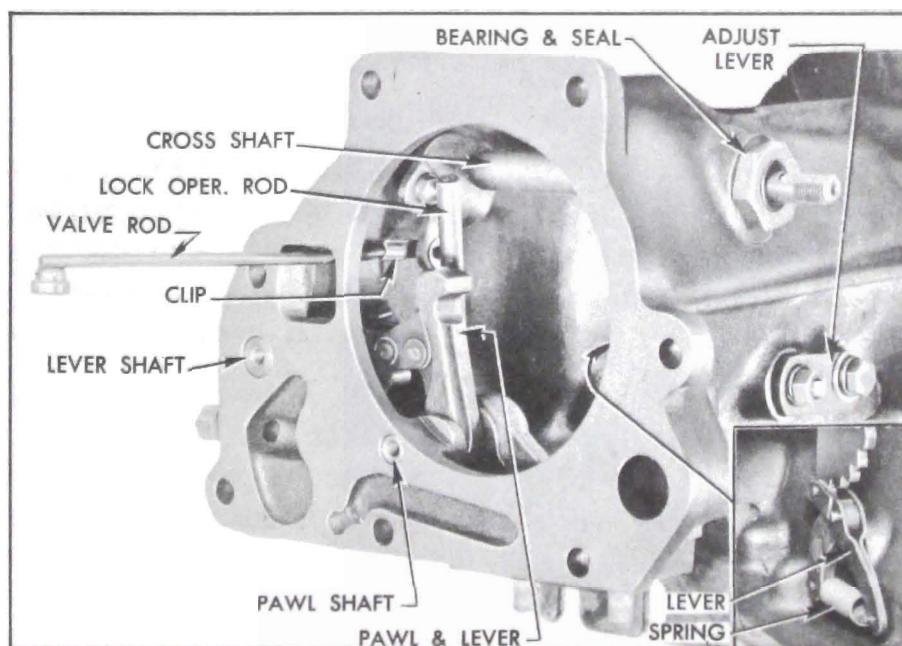

Figure 5-79—Parts in Rear Bearing Retainer
then remove lever and support assembly. See figure 5-79.
2. Disconnect the parking lock operating rod from the cross shaft by unscrewing the rod end from cross shaft lever. The rod end is provided with a lockwasher. See figure 5-79.
4. Screw a 1/4"-20 bolt into the parking lock operating lever shaft and the lock pawl shaft and pull these parts from bearing retainer, then remove the lock pawl and lever assembly. See figure 5-79.
2. Install parking lock pawl and lever assembly in rear bearing retainer, then install the lock pawl shaft and operating lever shaft with tapped ends outward. See figure 5-79.